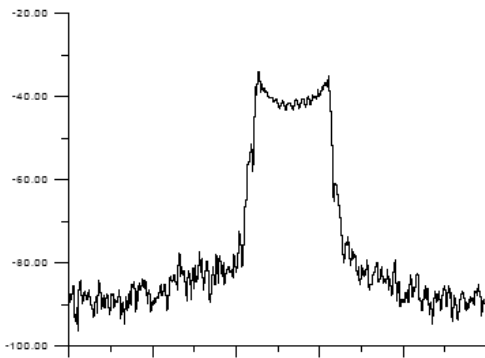

Figure 5. Rayleigh Fading (Frequency Domain)
- 10, Verify that the signal on the spectrum analyzer takes the shape of the “Classic Rayleigh Spectrum” with a bandwidth of approximately 167 Hz. See Figure 5.